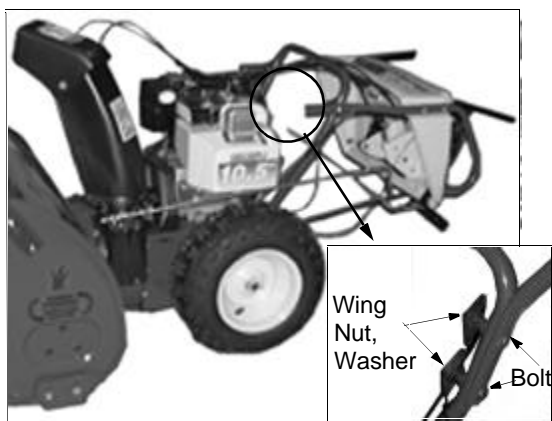

Figure 1
1. Remove the **lower** two plastic wing nuts, cupped washers and carriage bolts from each side of the lower handle. See Figure 1.